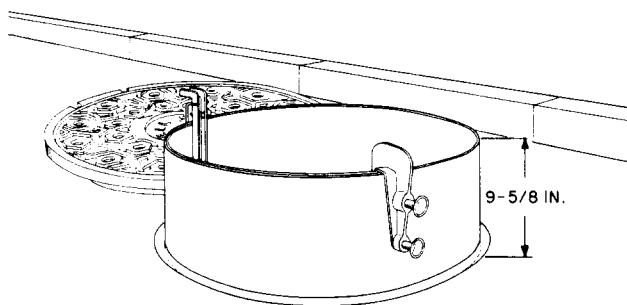

Fig. 1—B or C Manhole Shield
2.01 The B and C Shields, illustrated in Fig. 1, are made of aluminum. The C Manhole Shield is the same as the B Shield except that it has a highway-yellow baked enamel finish. One end of the shield is equipped with a clamp. It is designed to fit circular manhole frames 24 to 36 inches in diameter. The ends of the shield overlap and the desired size is obtained by increasing or decreasing the amount of the overlap. The shield is held at the desired position by tightening the thumb screws in the clamp.